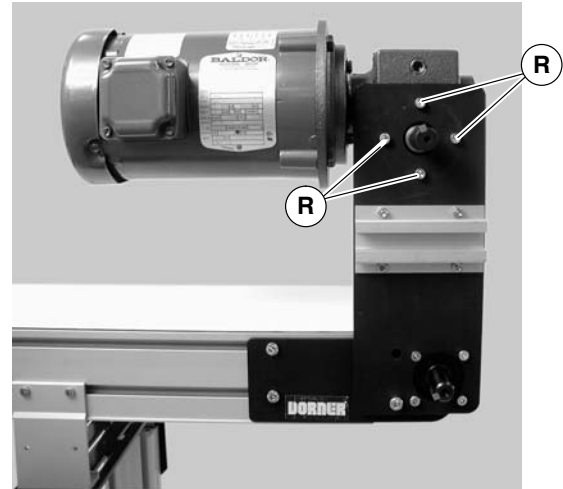

Figure 18
5. Remove four (4) gear reducer mounting screws (R of Figure 18). Remove gearmotor.
11. Install gearmotor to mounting bracket and tighten screws (R of Figure 18) to 110 in-lb (12 Nm).